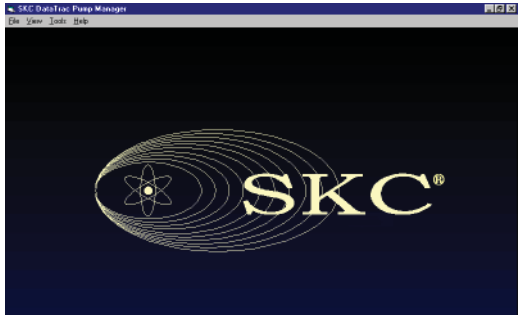

Figure 3. SKC DataTrac Pump Manager Window
8. DataTrac will load and display the SKC DataTrac Pump Manager window (see Figure 3, p. 4).
The SKC DataTrac Pump Manager window (Figure 3) is the first window that opens in DataTrac. All windows are accessible from this main window.